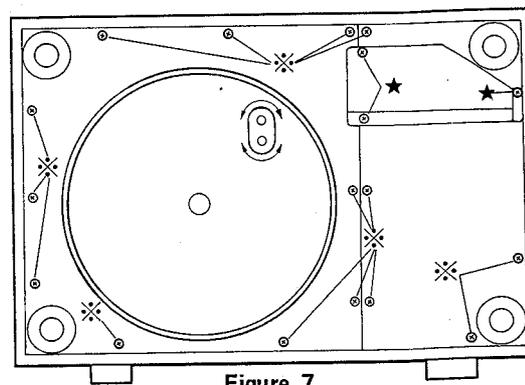

Figure 7
**3-1 BACK COVER REMOVAL (Figure 7)**